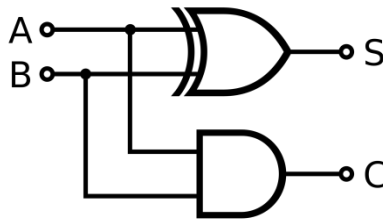

Figure 1. The Half adder circuit
1. Construct the circuit as shown in Figure 1.